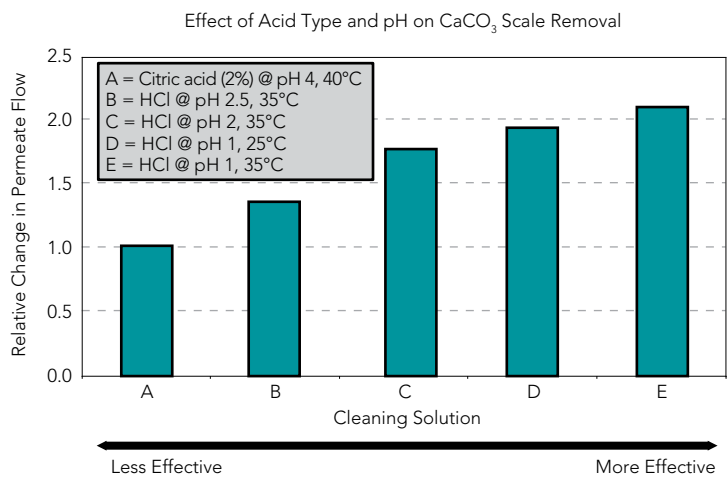

Figure 5. Temperature and pH impact the performance of acid cleaners.
- To remove calcium carbonate scale, cleaning at lower pH and higher temperature restores permeate flow more fully (Figure 5). Some plants use citric acid (Cleaner A in the figure) to remove scale but it's usually not very effective compared to HCl at pH 1 (Cleaners D and E).